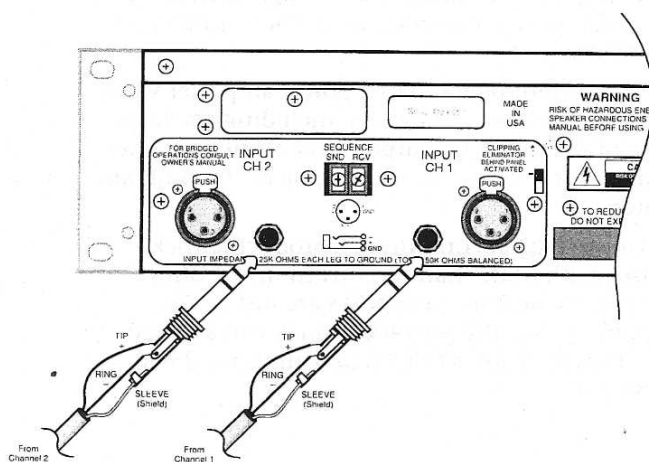

Figure 3A. 1/4" Balanced Input Connection
**1/4-inch phone jack:** Use a 3-conductor TRS 1/4" phone plug. The tip of the plug carries the "+" (hot, non-inverting) side of the signal, the ring carries the "-" (low, inverting) side of the signal and the sleeve is ground (see Figure 3A).